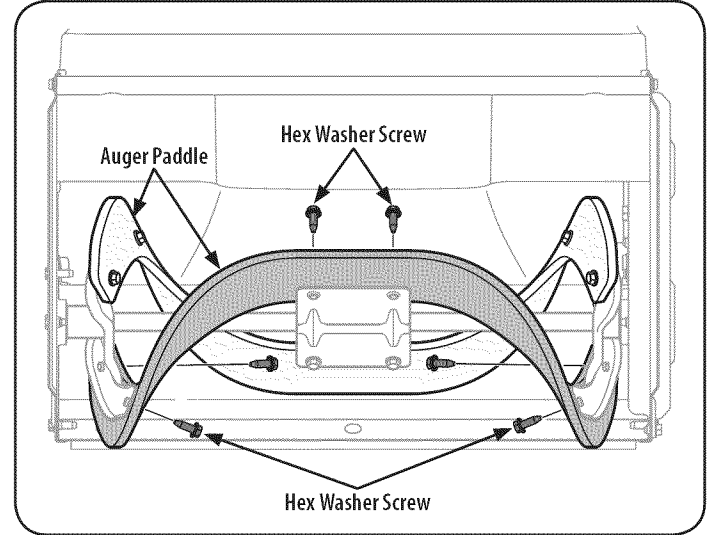

Figure 22
To change the rubber paddles, proceed as follows and refer to Figure 22:
3. Remove the existing rubber paddles by unthreading the hex washer screws which secure them to the auger. See Figure 22.